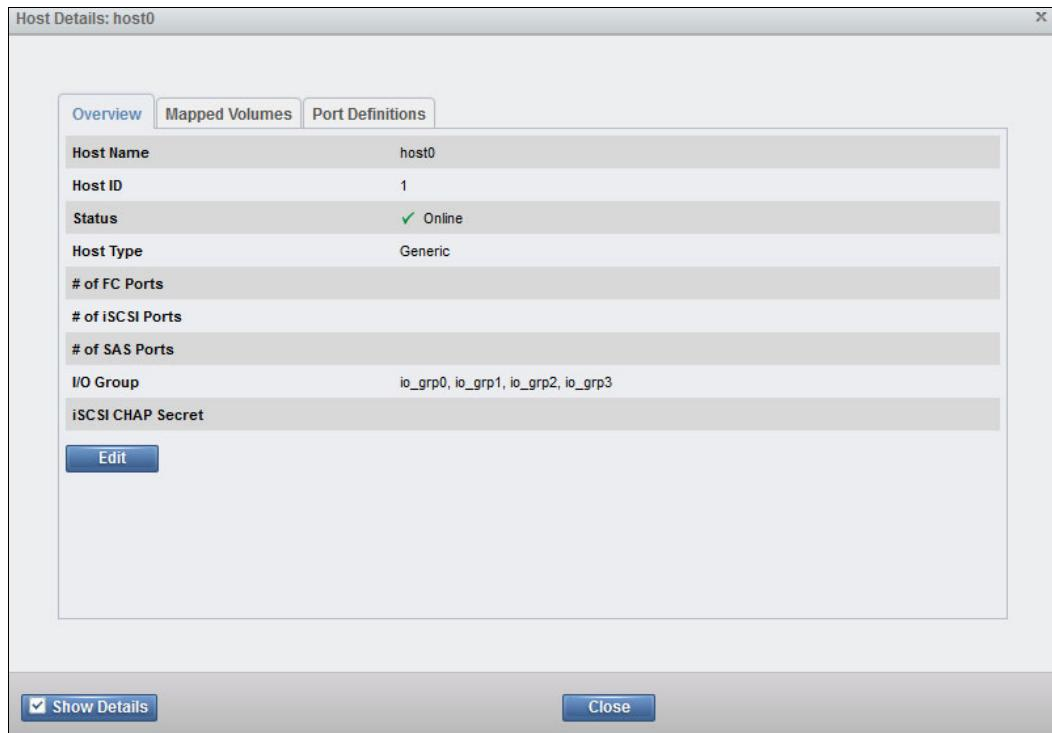

Figure 5-3 Setting a one-way iSCSI CHAP secret for a host object
3. Click the **Show Details** button in the lower left corner, which opens the iSCSI CHAP Secret field. Click **Edit**, complete the iSCSI CHAP Secret field, and click **Save**, as shown in Figure 5-3.